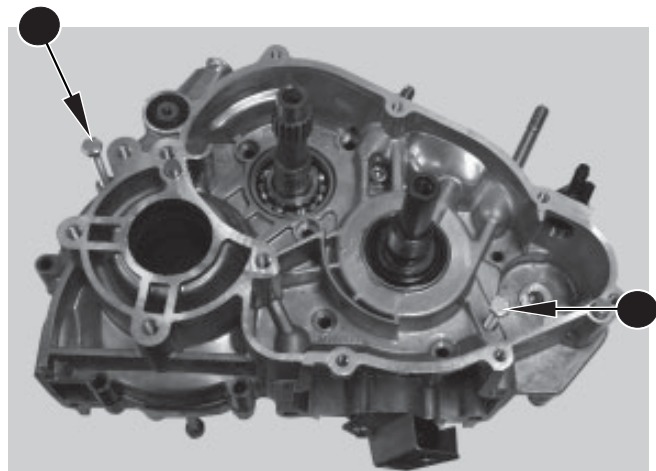

Fig. 32
- ⇒ The forcing screws indicated in Fig. 32 must be screwed equally into the respective threads.